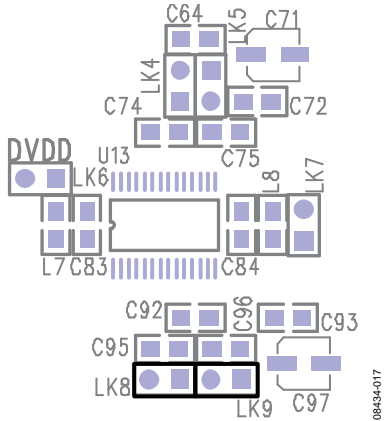

Figure 17. Links to Cut and Short for Mono Mode
1. Cut LK4 and LK5 on the bottom of the board to disconnect the IOUTL+ and IOUTL- from the left I-to-V converter (see Figure 17).
2. Short LK8 and LK9 to sum IOUTL-/IOUTR+ and IOUTL+/IOUTR- (see Figure 17).